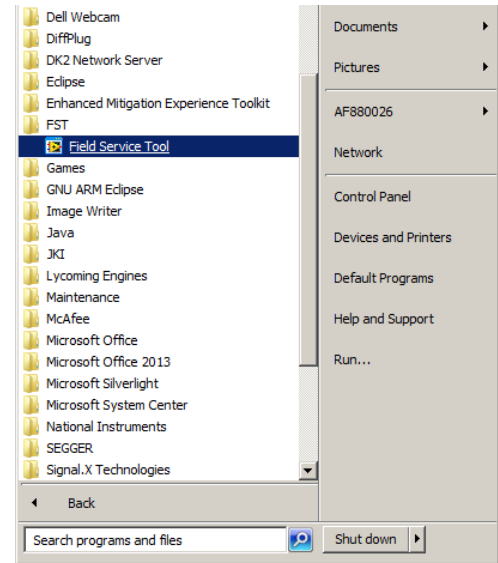

Figure 1
6. Find the FST Folder in the menu and double-click on **Field Service Tool** (Figure 1).